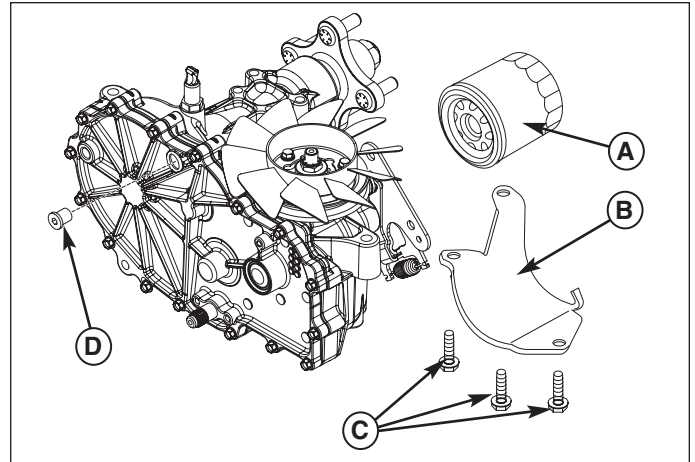
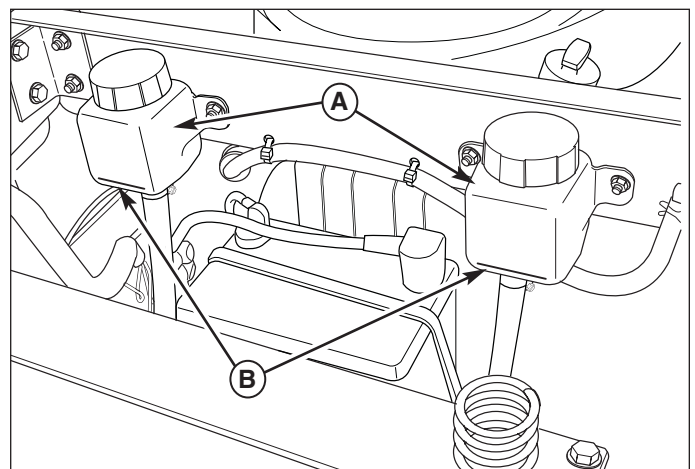

Figure 23. Transmission (Left Side Shown.)
Figure 24. Transmission Oil Reservoirs
1. Locate the transmission oil filters (A, Figure 23) underneath the rear of the machine on the transmissions.
2. Remove the three 1/4" filter guard screws (C) and the filter guard (B).
9. Continue to add oil to the transmission oil reservoirs until the oil lever reaches the "FULL COLD" mark (B, Figure 24). Reinstall the oil reservoir cap.